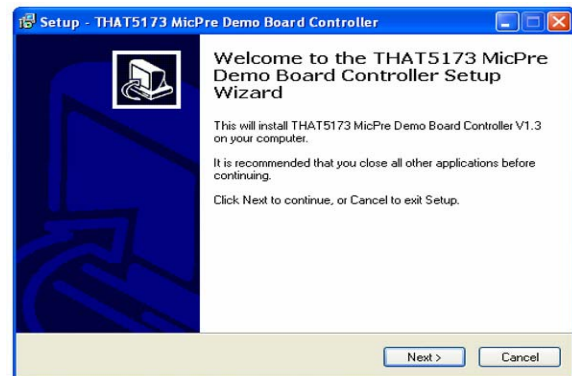

Figure 5. Starting the GUI installation process
4. You should see the automated wizard step through a series of steps as it plugs in the requisite USB drivers. When it's done, the wizard invites you to install the GUI, as shown in Figure 5. Click NEXT.